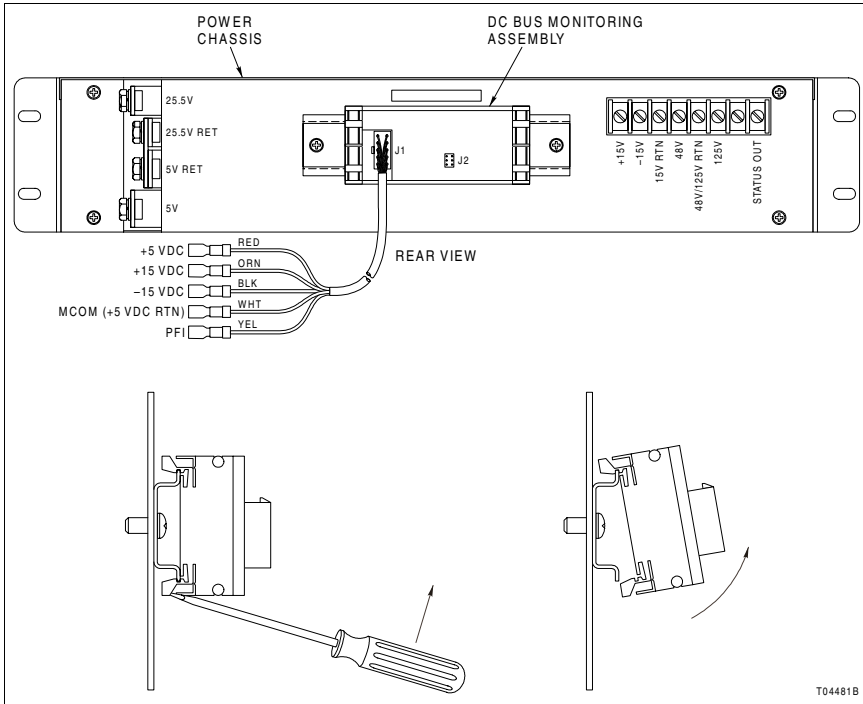

Figure PR11-1. DC Bus Monitoring Assembly Removal
- 3. Disconnect and label the cable from J1 (Fig. PR11-1) on the DC bus monitoring assembly.
- 4. Refer to Figure PR11-1 and use the bladed screwdriver to disengage the locking device on the DC bus monitoring assembly.